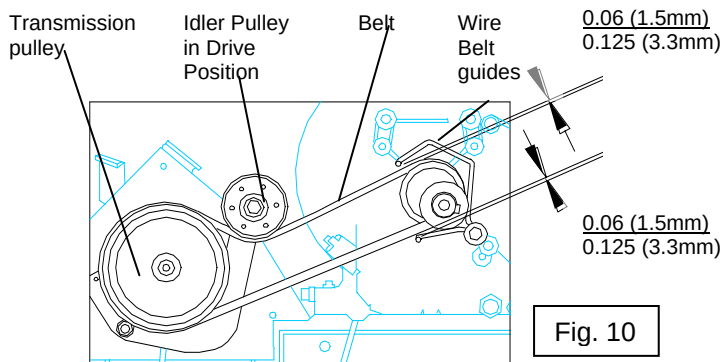

Fig. 10
14. When impeller is installed, slide belt into drive pulley and adjust wire belt guide as shown on page 9 see fig. 10 & 11).
Belt Adjustment: As V-belt wears, adjustments may be required. Adjust by tightening or by loosening clutch cable nut as required. When replacing the belt, the impeller must be removed. See instructions on page 12. See parts list for impeller bolt torque specifications. See figure 10 & 11 for proper belt tension adjustment. If cable cannot be adjusted to provide proper belt tension then belt must be replaced. **DO NOT OVER ADJUST.**